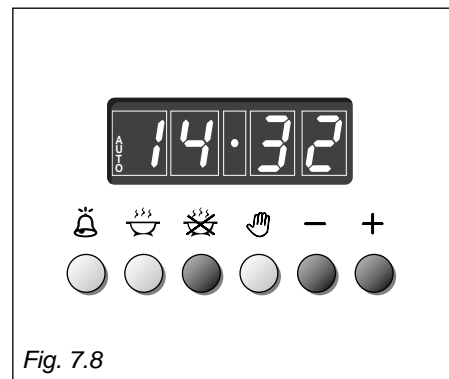

Fig. 7.8
2. Set the time you need the food to stop cooking by pushing the  button and the \oplus button to advance, or \ominus to go backwards if you have passed the desired time (Fig. 7.8).